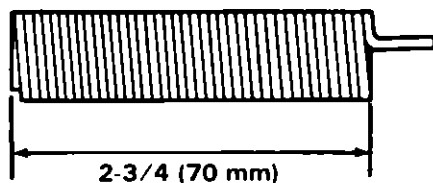

Figure 5 Checking Rewind Spring.
- D Check rewind spring for wear and length Original free length is 2-3/4" (70 mm) Figure 5